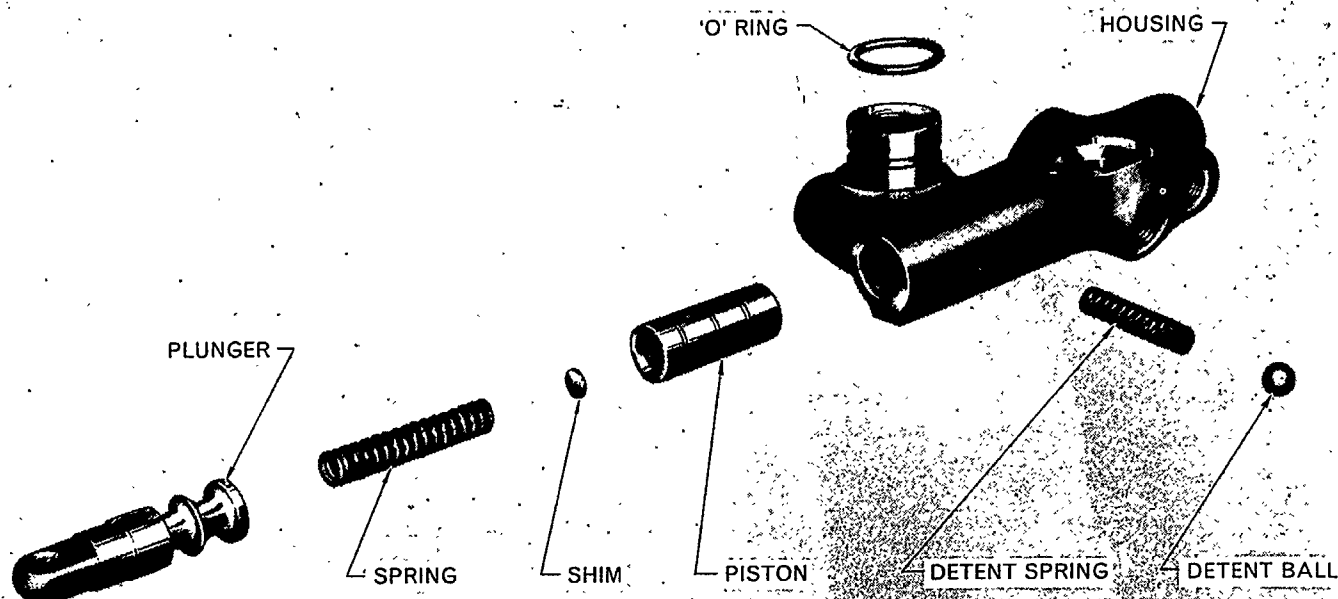

Figure 8
2. Extract the control valve plunger, Figure 8.